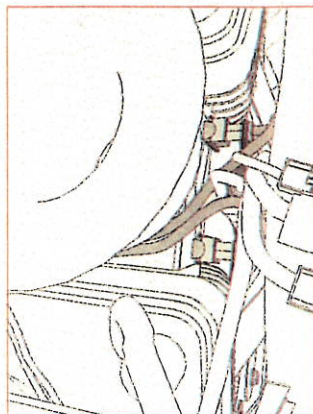
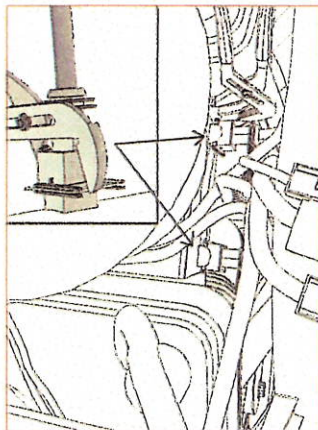
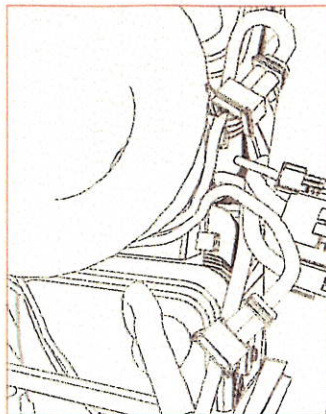

Figure 16
Figure 17
Figure 18
10. From the right side of the bike, look between the frame and the throttle body. Pull the harness you just freed up away from the throttle body. You will see a connector in the center, cable tied to the throttle body. Below that, on each intake port, you will see the injector connectors (Figure 16). The fussy part... Using long handled needle nose pliers, depress the locks on the sides of the connectors, and pull them off (Figure 17). Do not pull by the wiring. The connectors come off easily once they are unlocked. Pull the injector leads up through the top. The rear lead should be tagged "Injector Rear". (Figure 18)